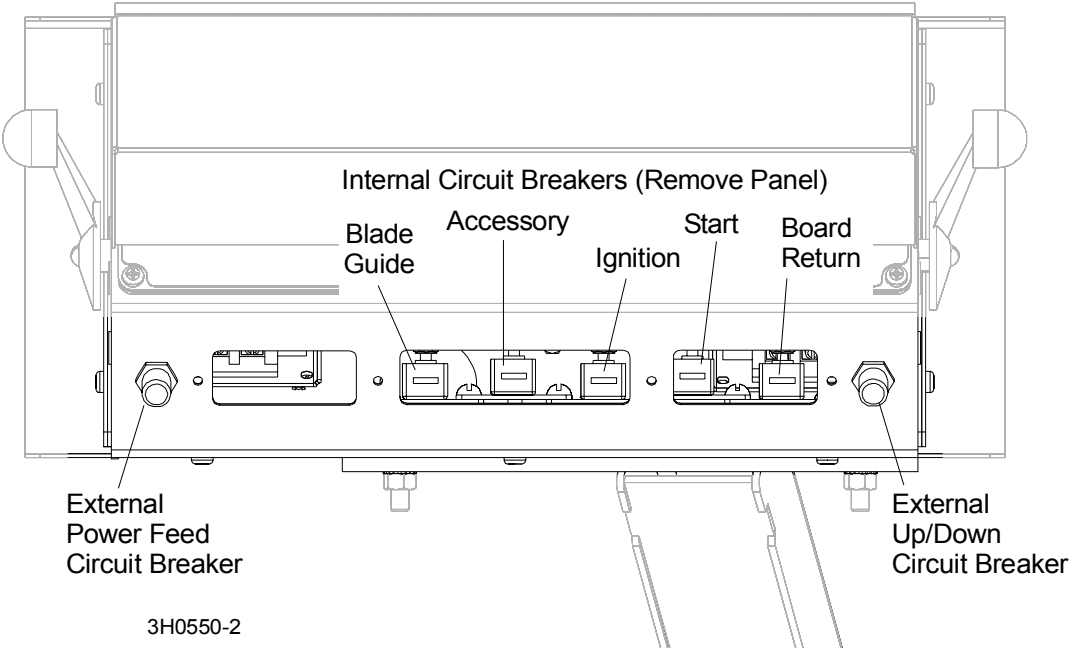

FIG. 4-3
**See Figure 4-3.** The power feed and up/down breakers are externally mounted at the front of the control box. The blade guide, accessory, ignition, start, and board return breakers are located inside the control box. Remove the circuit breaker panel from the control box to access the internal breakers.